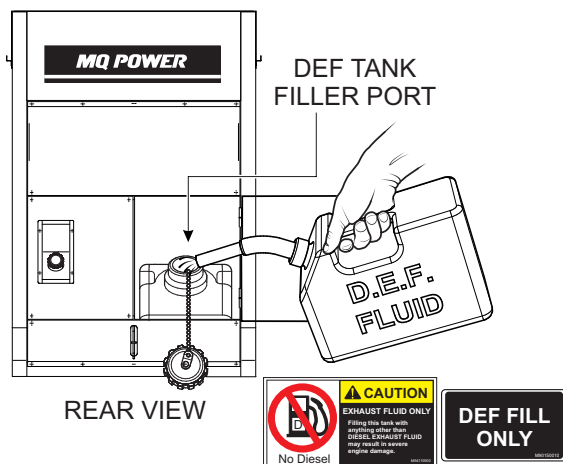

Figure 34. Filling The DEF Tank
2. Remove the cap from the DEF tank filler port (Figure 34).